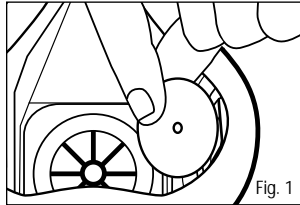

Fig. 1
1. Align cartridge notch with facepiece mark, as shown, and push together. (Figure 1)
1. Align adapter over cartridge. Engage front snap by squeezing front of cartridge and adapter together, placing thumbs of both hands over top of adapter and fingers along bottom sides of cartridge. (Figure 1)
1. Hold the half facepiece in front of you so that the 3M logo on half facepiece is facing you. Align the two branches of the breathing tube over the two bayonet mounts on half facepiece. For the 3M™ SA-1500 or SA-1600 Breathing Tubes, make sure that 3M logo on breathing tube and on half facepiece are both facing towards you. For 3M™ SA-2500 or SA-2600 breathing tubes, make sure that the 3M logo on breathing tube is facing in opposite direction to 3M logo on half facepieces. (Figure 1) 3M SA-1500 shown
1. Remove the inhalation valves from facepiece and store them so they remain flat. (Figure 1)
1. Place respirator over your mouth and nose, then pull head harness over crown of your head. (Figure 1)